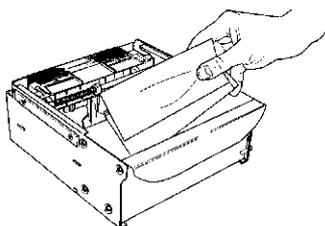

Figure 4-18. Removing rejected notes.
3. Remove any rejected notes. The reject compartment is located nearest the handle side of the tray. (Figure 4-18)